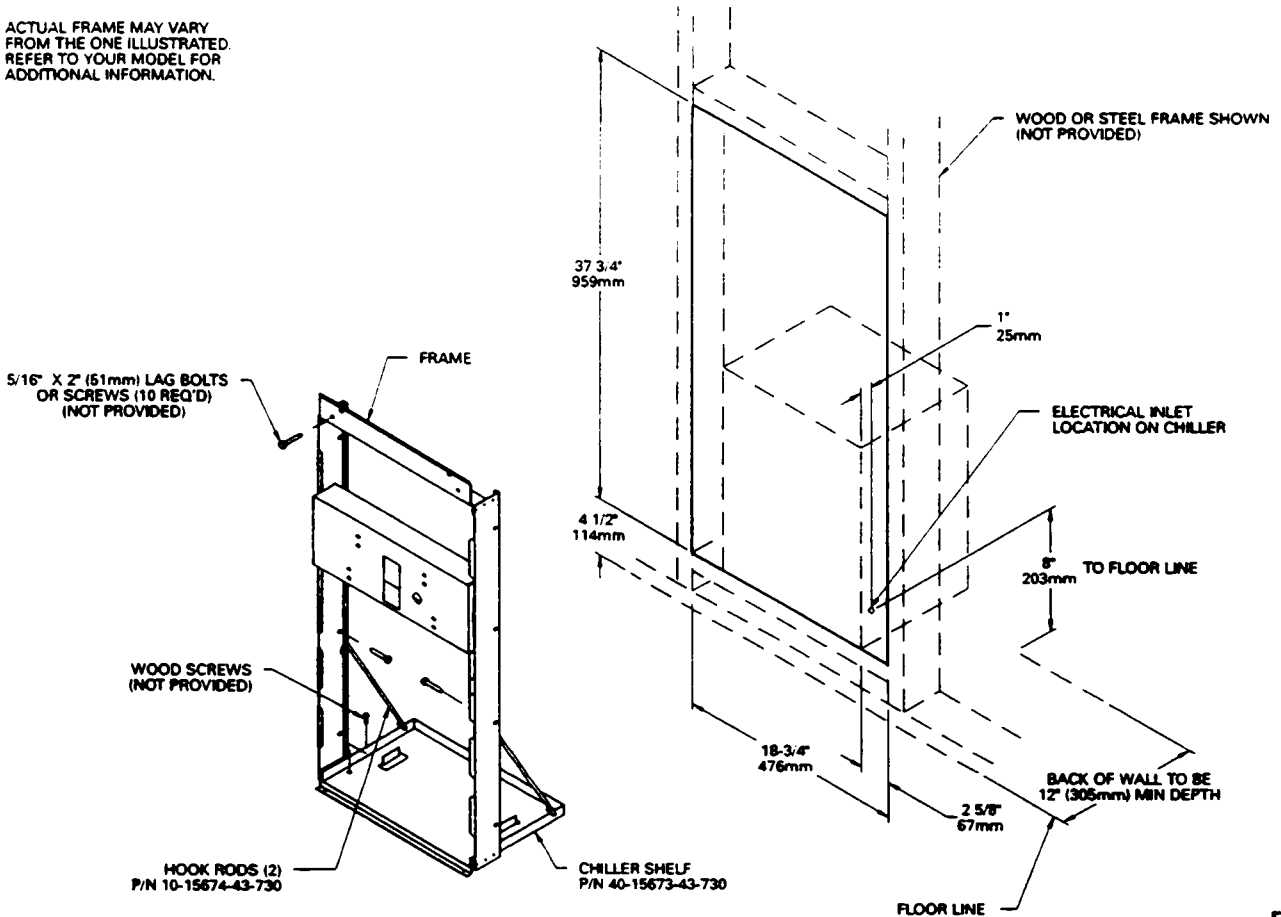
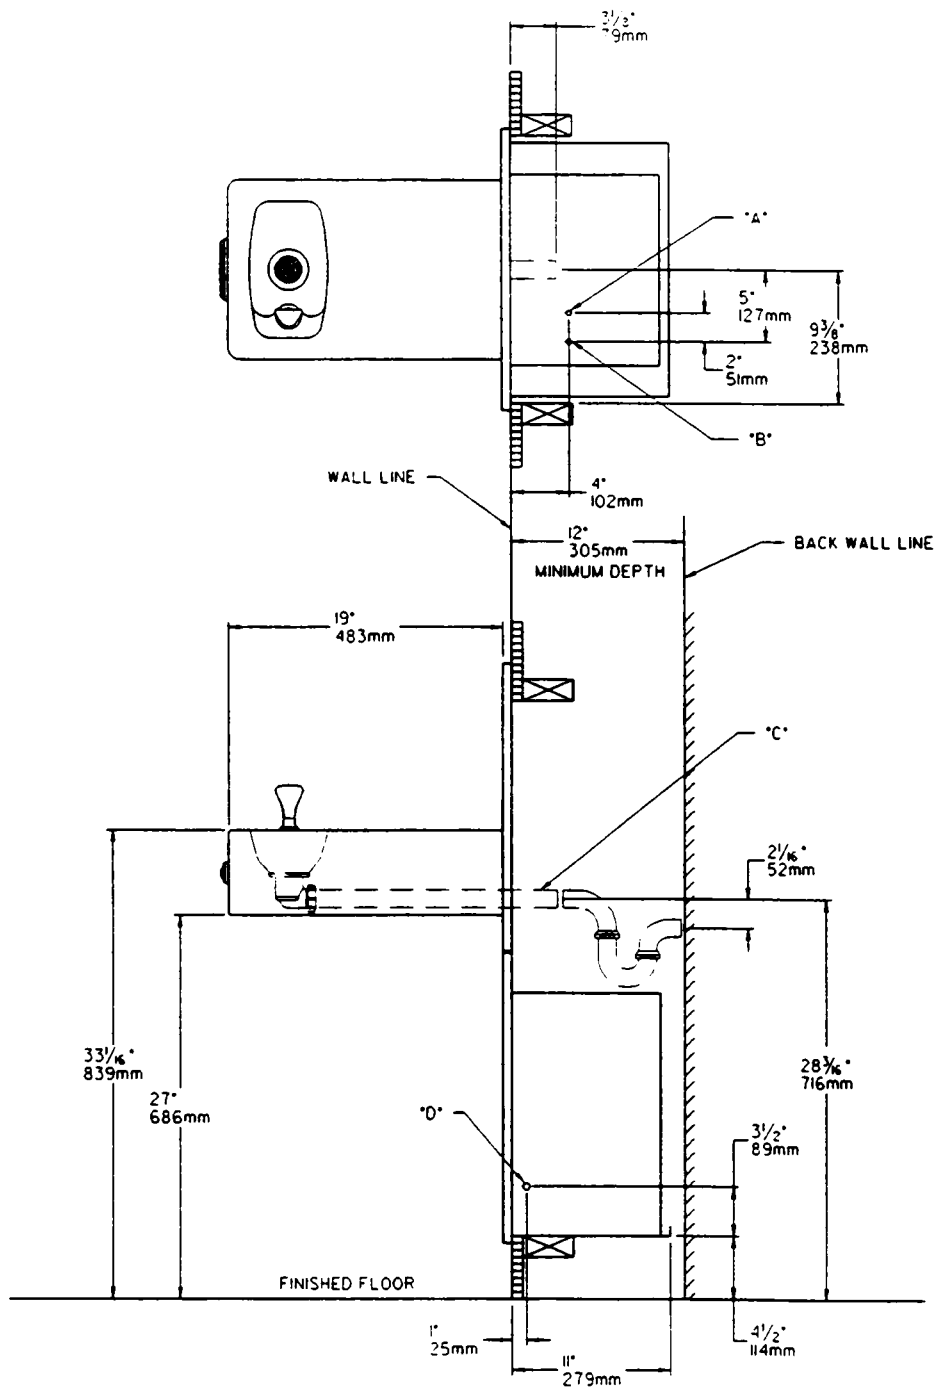

FIG. 1
FIG. 4
1. Cut a square rectangular wall opening 18 3/4" (476mm) W x 37 3/4" (959mm) H and 4 1/2" (114mm) above the floor line. These dimensions are required to obtain proper rim and bubbler heights for compliance with ANSI standard A117.1. (See Figure 1)
NOTE: Building construction must allow for adequate air flow on both sides and top of remote chiller unit. Minimum of 4" (102mm) is required. (See Figures 1 & 4)
3. Install plumbing and electrical rough-ins. See Figure 4 for location of the supply water inlet to chiller and for the location of the waste water outlet. A junction box for a (3) wire, 10 amp branch circuit is provided on the inside of the chiller. (Standard 120 Volts, 60 Hz and single phase) See Figure 1 for the electrical inlet location.
4. Remove frame and related hardware from packaging. Release the two shelf rods by cutting cable ties. Install the frame squarely in wall opening with frame upright edges flush with the finished wall face. (See Figure 1) Place shelf inside frame and line up the (2) holes on each. Insert loose ends of rods into holes on sides of shelf panel. Using appropriately sized wood screws (not provided), fasten the shelf and frame to bottom of wall opening. (See Figure 1) Secure the frame sides and top to the wall using (10) 5/16" x 2" lag bolts or screws (not provided).